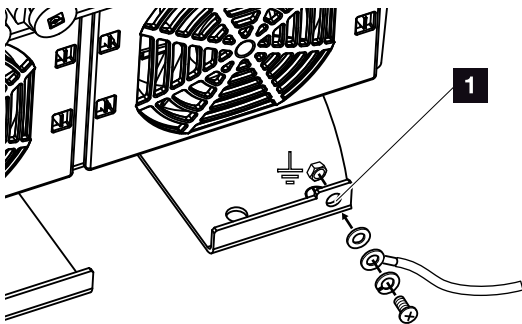

Fig. 24: Country-specific PE connection, outside
11. In countries in which a second PE connection is prescribed, connect this at the marked place on the housing (outside). **🔧** Fig. 24, It. 1